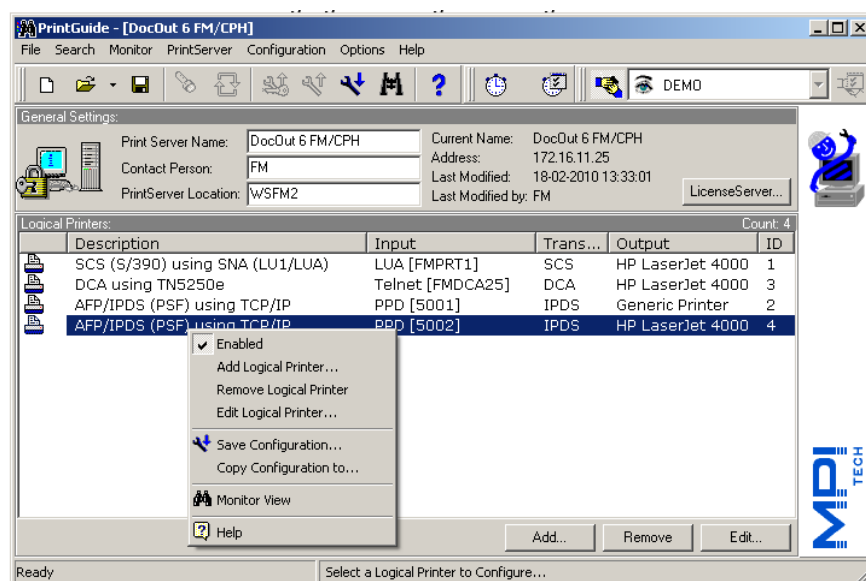

Figure 18
4. Highlight the Logical Printer in the list and click **Edit**, or double-click on it. You can also highlight it and right-click to get the menu shown in Figure 18, from which you can select **Edit Logical Printer...**